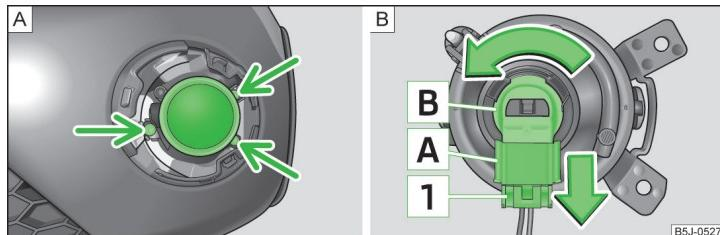

Fig. 160 Front bumper: Fog lights/fog lights: Replacing the light bulb
- Unscrew » page 158, **Vehicle tool kit** the screws » Fig. 160 - with the screwdriver .
- Press the locking tab **1** » Fig. 160 on the connector **A** and remove the connector from the bulb holder **B**.